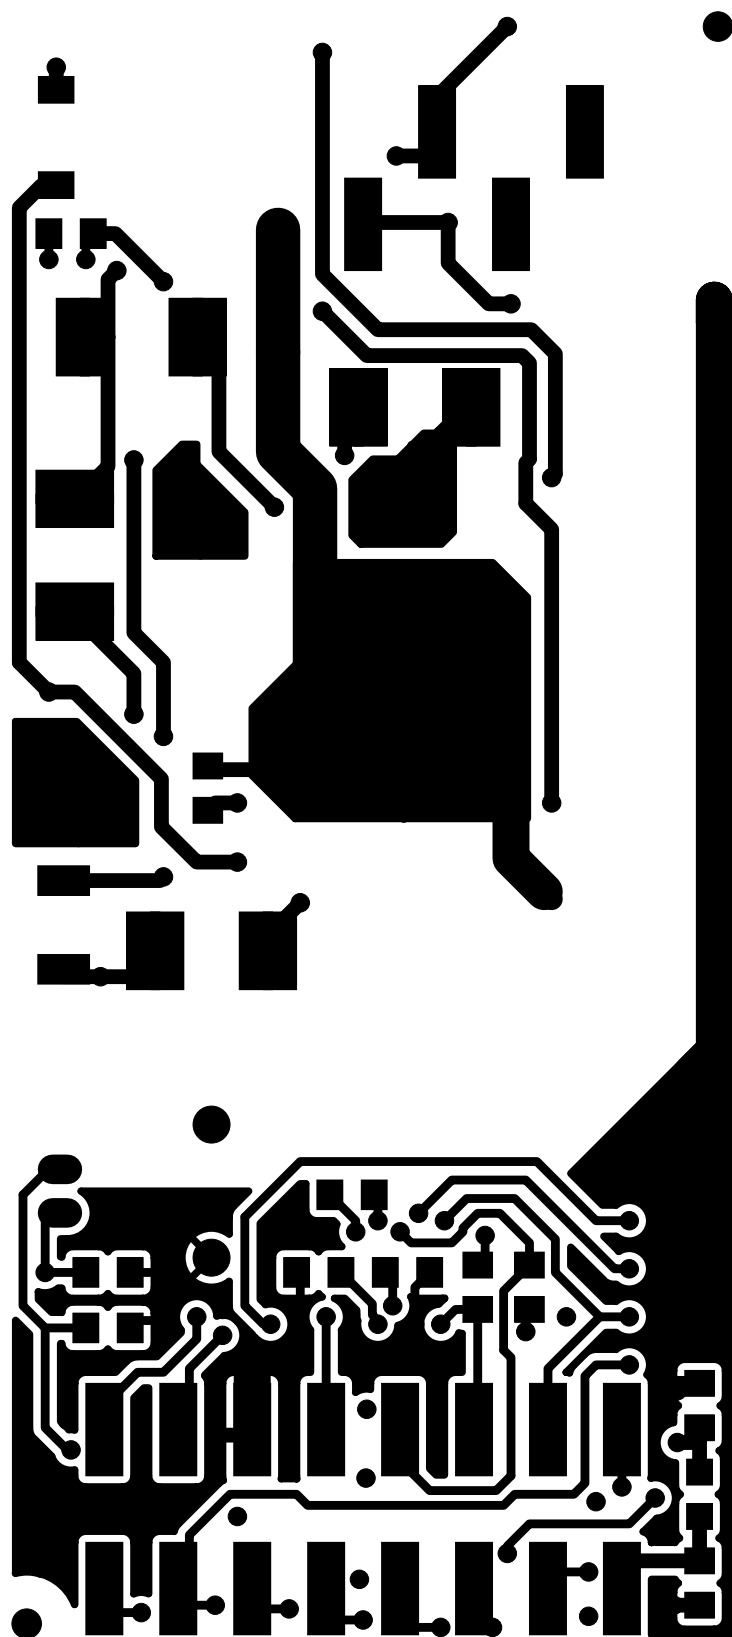

Figure 17. Daughter Card Secondary Side Layout
- Updated Figure 17, "Daughter Card Secondary Side Layout," on page 26.